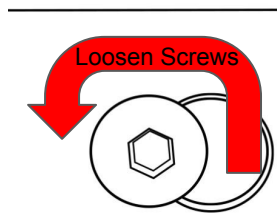

Fig. 22
2. Once the screws are loosened you can push the pass-through bracket to the right to clear the screws (see Fig. 22).